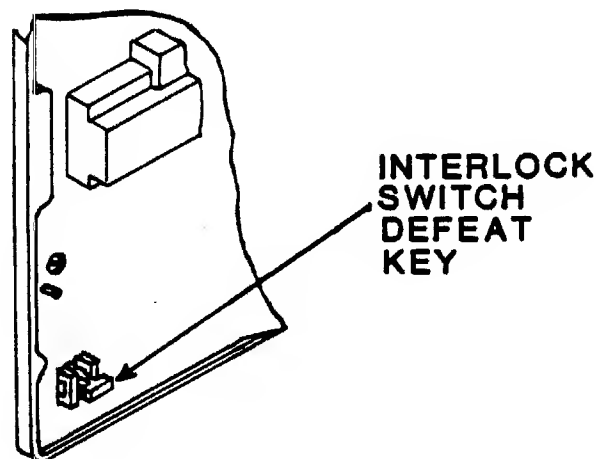

Figure 3-9. Interlock Switch Defeat Key
3. With the absence of a front door, an interlock defeat key (not supplied) must be inserted in interlock switch and turned clockwise 90° (refer to Figure 3-9).